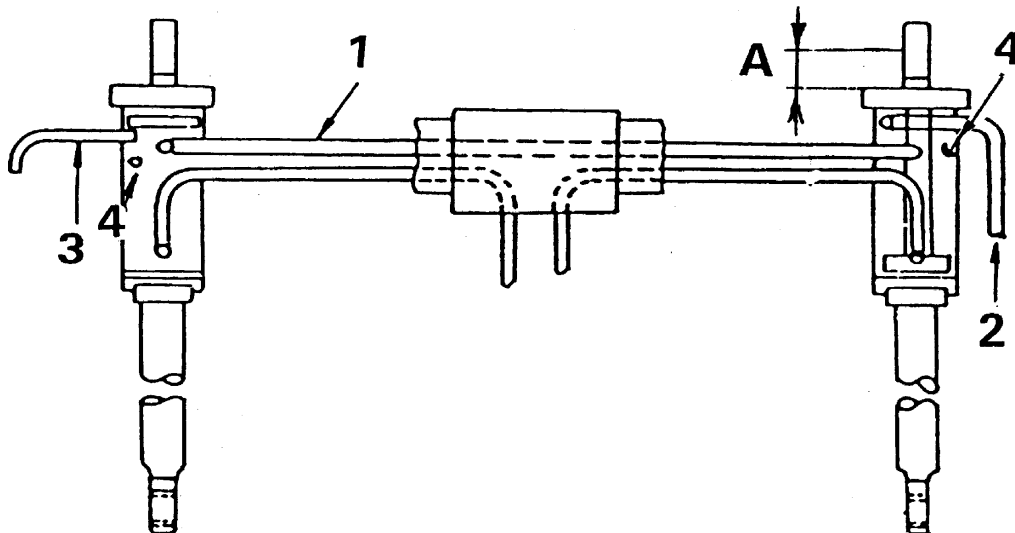

Fig. 5.32. Filling and venting the tilt cylinders.
- a) disconnect quick connector (4 Fig. 5.32) of the right tilt cylinder and direct flowing out oil to an adequate vessel.
- b) start the engine and tilt the blade until small amount of oil will flow out through quick connector (4).
- c) connect other end of hose to the quick connector (4) on the right tilt cylinder.